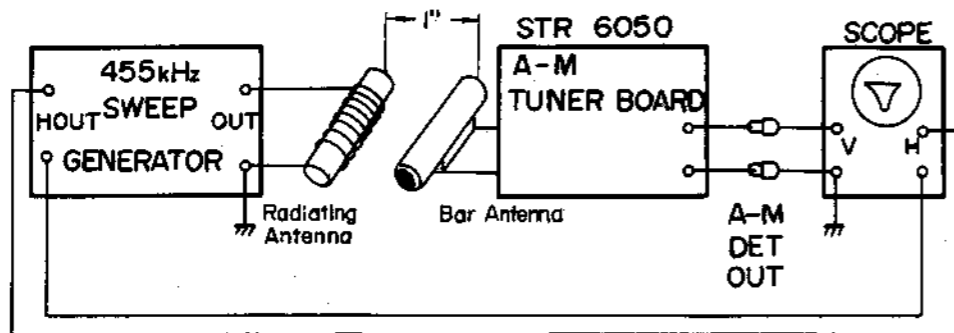

Fig. 3-8 A-M I-F Adjustment Test Set-up
- (1) With the equipment connected as shown in Fig. 3-8, adjust the sweep generator output as low as possible and set scope controls to provide a visible indication.